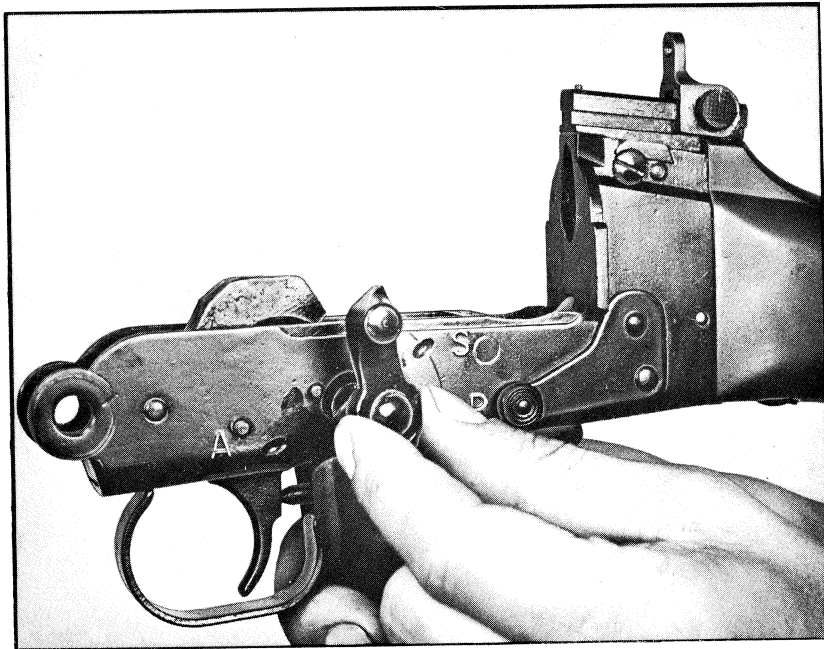

Fig.87
a) **Change lever.** — Rotate the change lever upwards in the vertical position and remove the change lever (fig. 87).